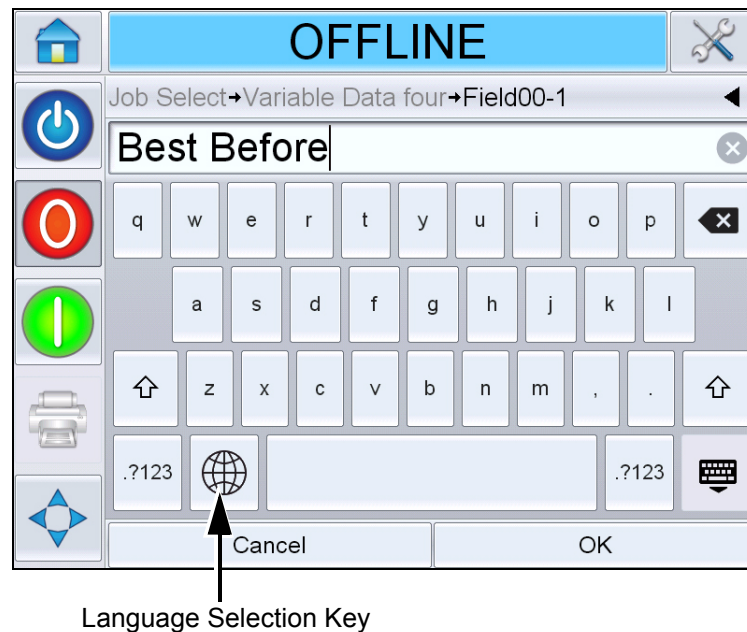

Figure 6-4: Default Keypad
- b. Touch the 'Language Selection Key', to access the available language selections (see Figure 6-4).